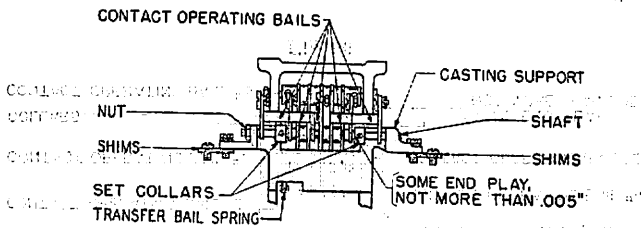

Fig. 57
**2.118 Sensing-Contact Operating-Bails:** (New style bracket) (transfer bail and slide assembly removed). The sensing contact operating bails should be centrally located between the casting supports and the bails should rotate freely on their shaft with some end play, not more than .005". **Fig. 57**